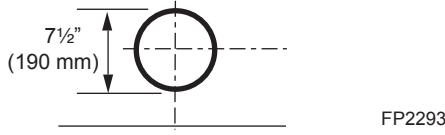

Figure 26 -
Locate vent opening on the wall. It may be necessary to first position the fireplace and measure to obtain hole location. Depending on whether the wall is combustible or noncombustible, cut opening to size. *Figure 26* (For combustible walls first frame in opening.)
Combustible Walls: Cut a 9 $\frac{5}{8}$ "H x 9 $\frac{5}{8}$ "W (244 x 244 mm) hole through the exterior wall and frame as shown. *Figure 26*
1. Establish vent hole through the wall. *Page 22, Figure 26*